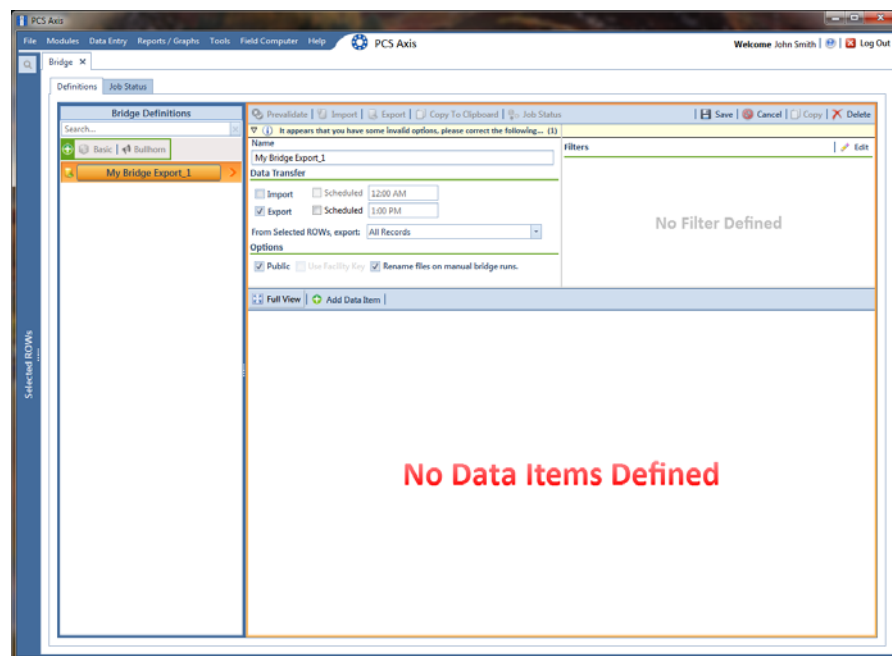

Figure 10-15. Bridge Export Definition
- 4 Type a unique name for the definition in the **Name** field (Figure 10-15, page 440).
- 5 To set properties in the *Data Transfer* group box, follow these steps (Figure 10-15, page 440):
- 6 To set properties in the *Options* group box, follow these steps (Figure 10-15, page 440):